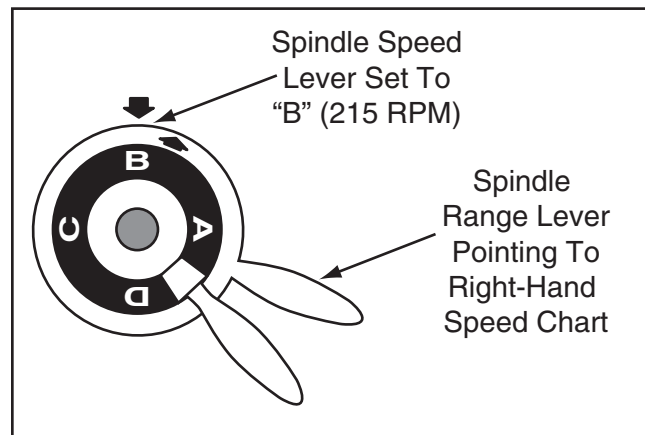

Figure 70. Setting the spindle speed to 215 RPM.
3. Move the spindle range lever to the right so that the arrow on top of its hub points toward the right-hand speed chart (see the illustration in **Figure 70**).